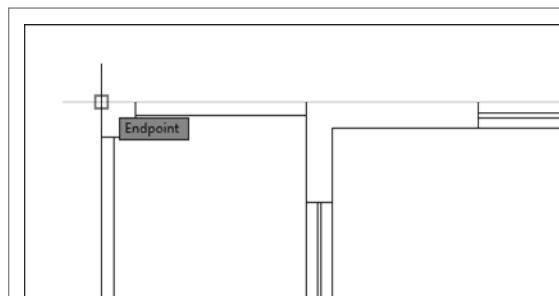

FIGURE 14.48 Choosing the insertion point for the Civil Site plan xref
8. When prompted to specify an insertion point, use the Endpoint osnap to select the upper-left corner of the deck, as shown in Figure 14.48.